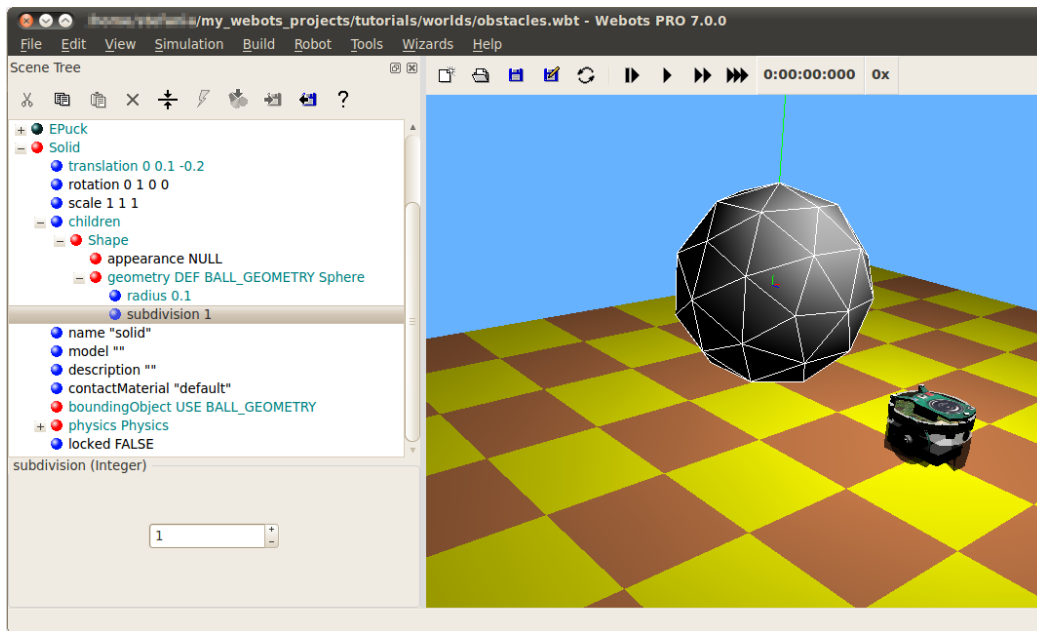

Figure 7.4: Your first rigid body in Webots.
*In the scene tree view, select the last node and add a Solid node using the **Add New** button. Similarly select the children field of the Solid node, and add a Shape node to it. Add a Sphere node as the geometry field of the just created Shape node. Add another Sphere node to the boundingObject field of the Solid. Finally add a Physics node to the physics field of the Solid. By modifying the translation field of the Solid node, place the ball in front of the robot (at {0, 0.1, -0.2} for example). Save the simulation. The result is depicted in figure 7.4.*